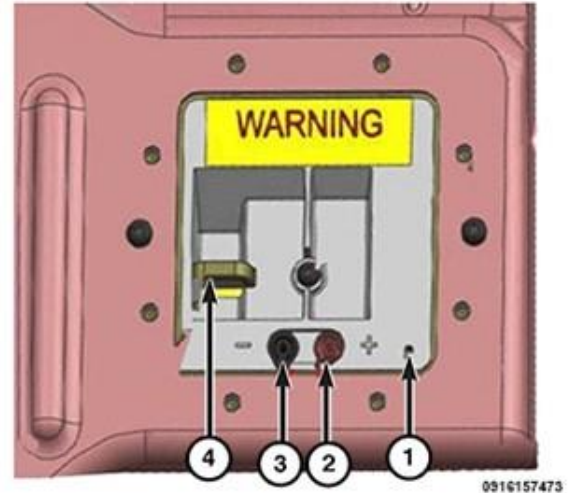

Figure 7 – HV Battery Test Points
12. Install a lockout-tagout padlock to the service lockout loop (4) to prevent test points access cover installation and re-engaging HVIL pin (Figure 7).